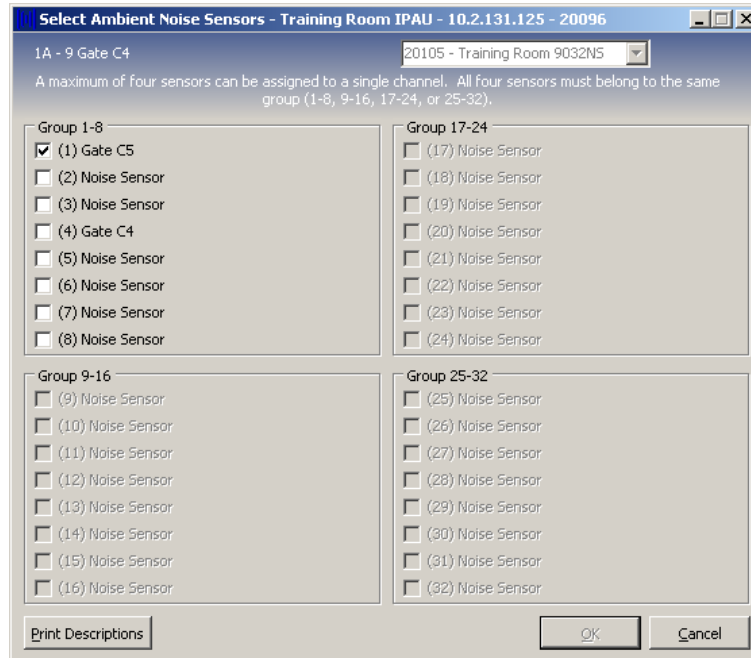

Figure 2-15: Ambient Sensor Assignment
Clicking on the **Assign Sensors** button will launch the Ambient Sensor Assignment window as shown in Figure 2-15. This is where one or more ambient sensors are directly assigned to control the currently selected channel. Each channel can have one (1) to four (4) ambient noise sensors assigned. When multiple sensors are use, the system averages the signal levels from all assigned sensors to obtain an ambient noise level reading. There are three very critical rules related to using multiple ambient noise sensors in a single zone that are described below.
1. Click on the **Assign Sensors** button from the Ambient Analysis Window. The Ambient **Sensor Assignment** window will be displayed as shown in Figure 2-15.
**Note:** Sensor inputs on collector units are sub-divided into groups of eight (8). All sensors for a single channel must reside on the same collector unit group. If a sensor is currently selected for a channel, then all other groups will be grayed out and not available for selection. To change to a sensor that is not located in the currently selected group, first un-check all sensor assignments, then any sensor group will be available for selection.